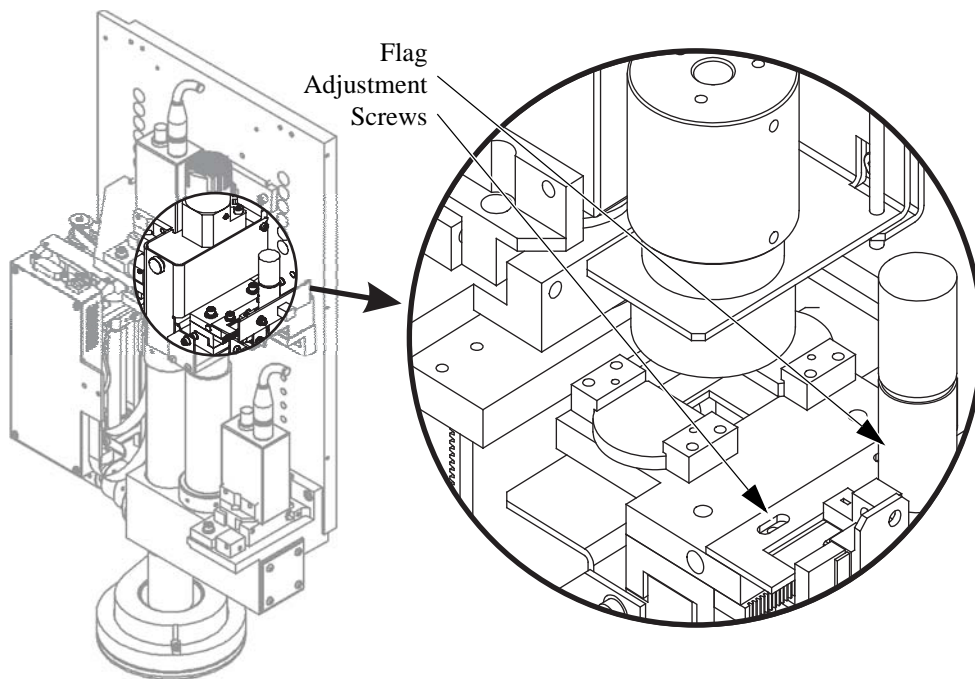

Figure 8-3 Flag Adjustment
6. Look at the Low Mag camera image in the Video window, and check to see if either grid is partially visible at the top or bottom of the screen. Gently push the shuttle back and forth within its center position *dead band*. If you can see either grid starting to enter the Video window, adjust the shuttle flag position; see Figure 8-3.